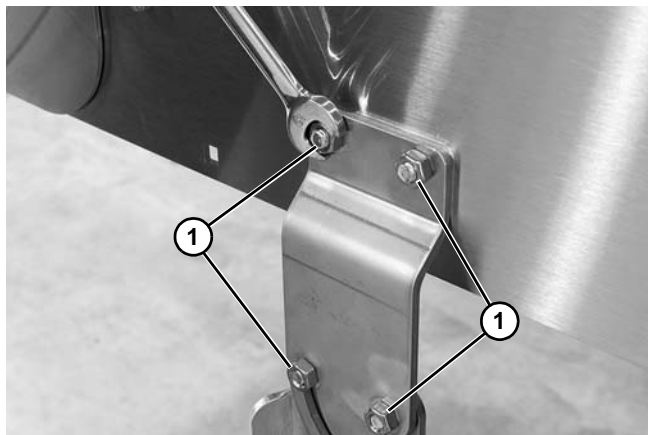

Figure 44
4. Remove fasteners (**Figure 44, item 1**) securing the stand brackets from one side of the conveyor and remove brackets.